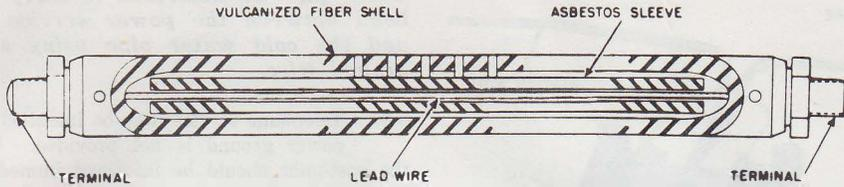

Fig. 40—11-Type Station Line Fuse
5.02 The 106C protector consists of a base of nonconductive material containing five binding posts, two 11C fuses (Fig. 40), and two 2A1A protector units.